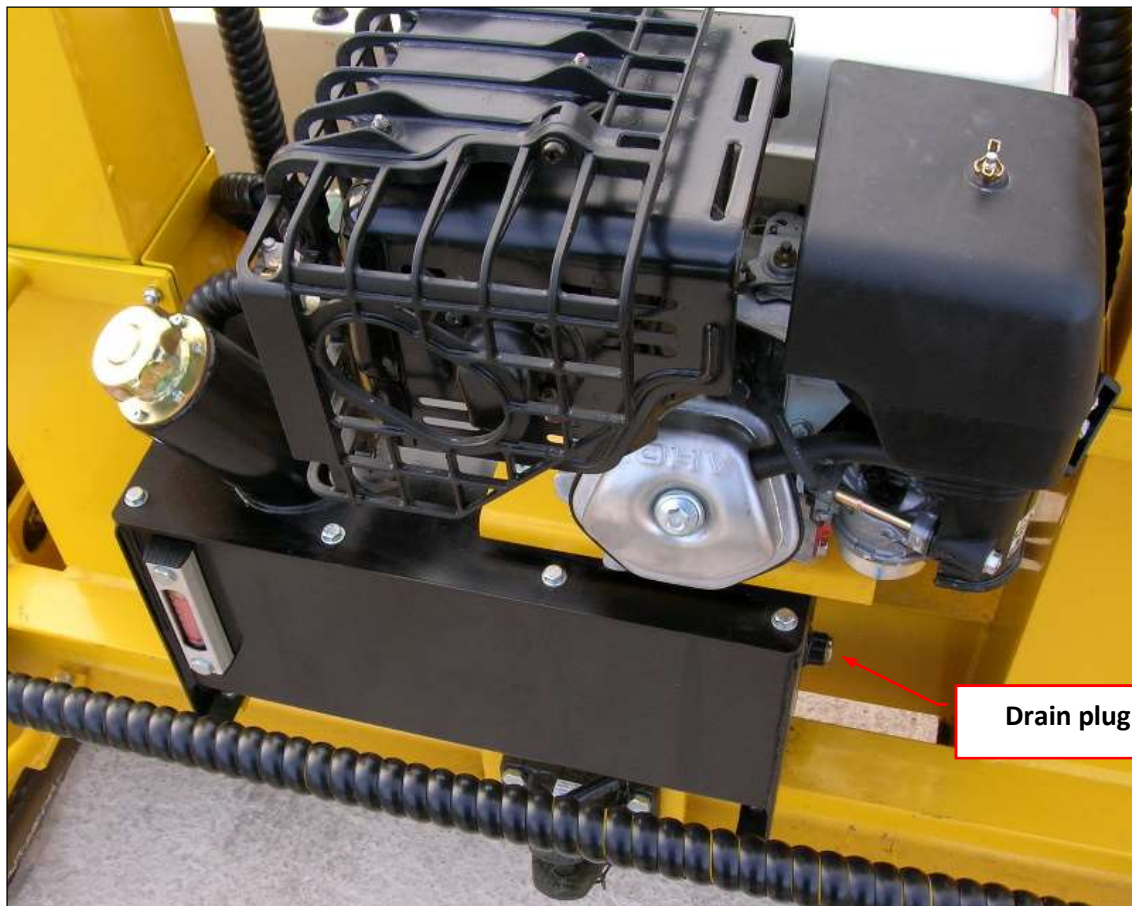

Figure 27
- Place the receptacle for the drained oil under the hydraulic tank drain cap (Figure 27).